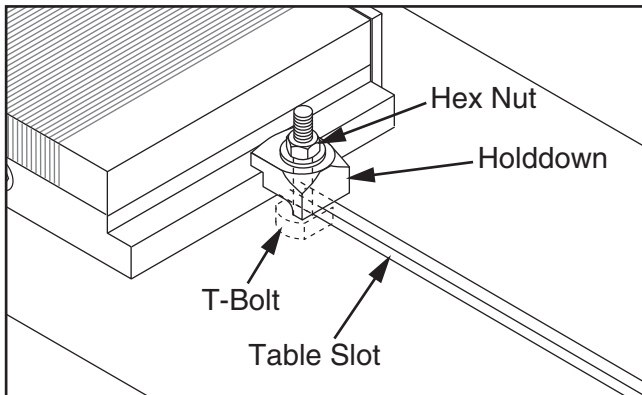

Figure 3. Example of clamping magnetic chuck to table.
4. Use included holddown assemblies (or other appropriate mounting hardware) to clamp chuck to table, as shown in **Figure 3**.